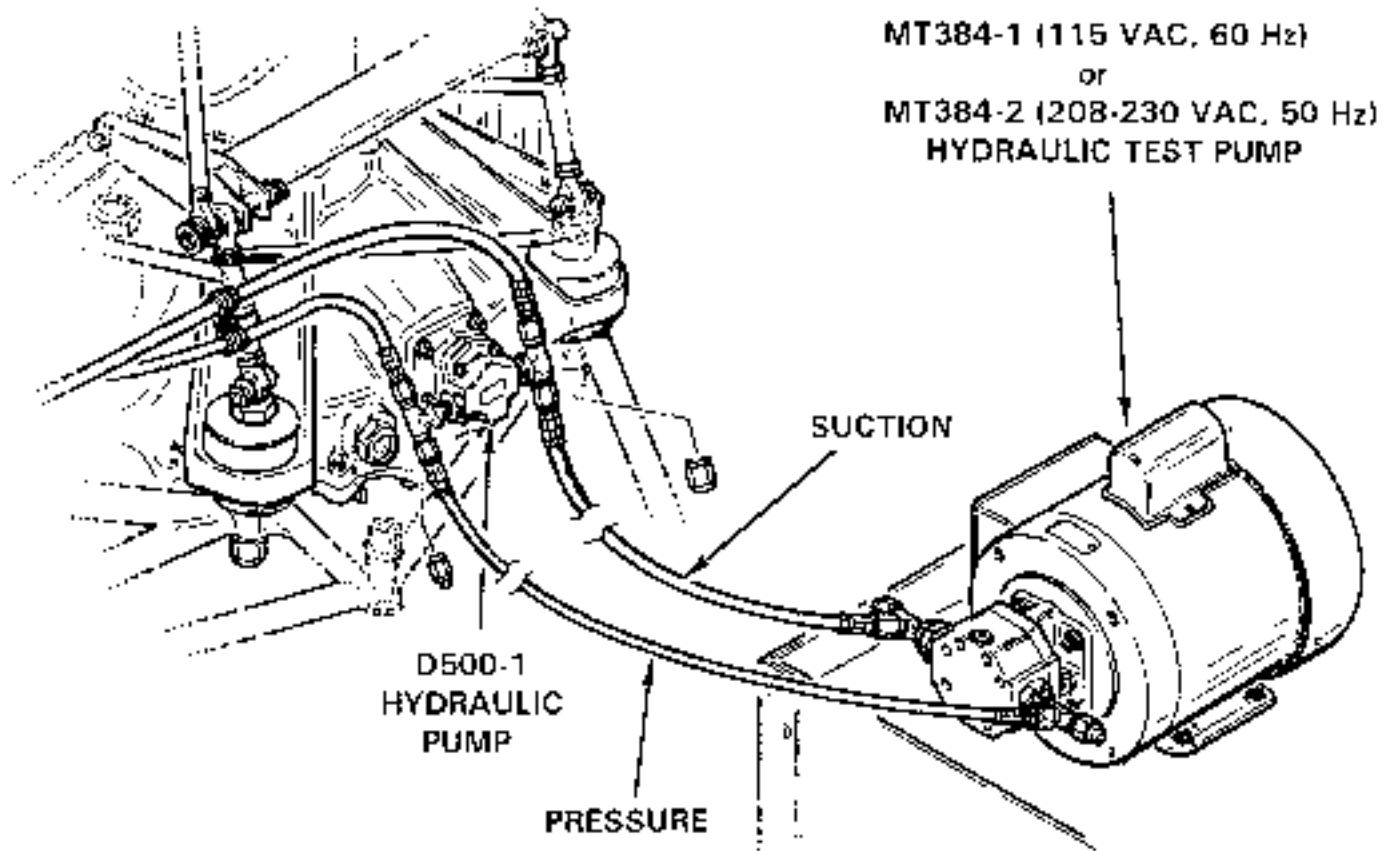

FIGURE 1-2A
4. See Figure 1-2A. Connect MT384 (or similar) 0.8-1.2 gpm hydraulic test pump to T fittings on D500-1 pump. Fittings are different sizes to ensure correct connection.
1.190 Bleeding Hydraulic System (see Figure 1-2A)